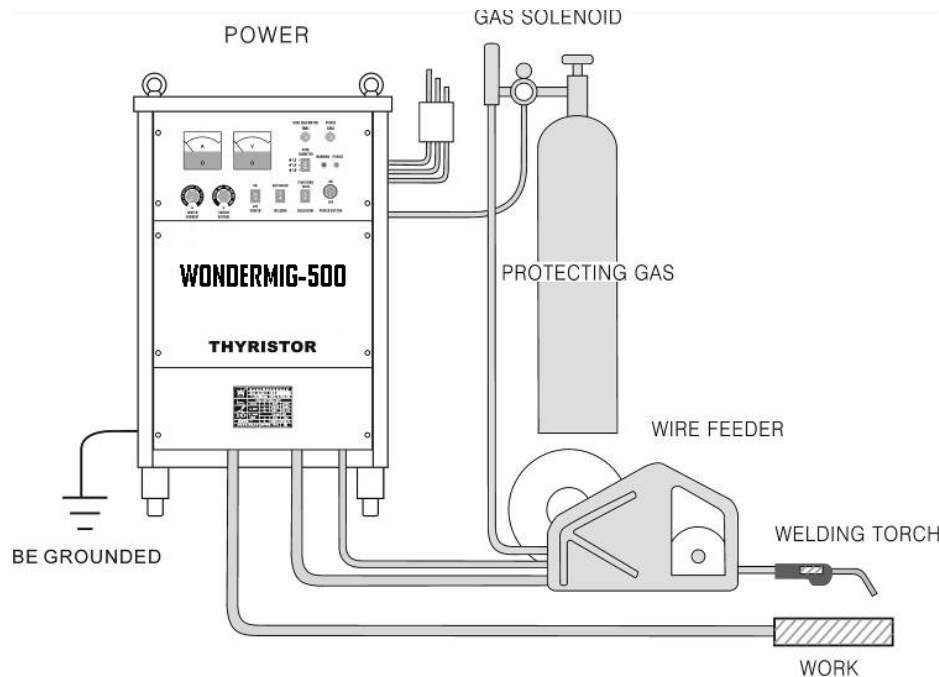

Fig.3 Connection of welder with base metal, wire drive feed unit, welding gun, cylinder.
- ① Please loosen the two M4 screws of input terminal cover and take the cover off.
- ② Connect the input cable to input terminal.
- ③ Well tangle the leakage of electricity part with insulation rubberized tape.
- ④ Assembly the input terminal cover again and tighten up the screws.
- ⑤ Connect the other end of input cable to the automatic switch of distribution box or circuit breaker without fuse (or leakage of electricity protector)
- ⑥ Ground base metal with cable whose section area is over 14mm^2 .
3. Connection of welder with base metal, wire drive feed unit, welding gun, cylinder and so on is shown as Fig.3.
- ① Please carefully inspect the whole set of equipment again. Only after be sure of correct connection according to Fig.3, the operator can be allowed to prepare for welding.
- ② Prepare to weld:
- ③ Fix wire: